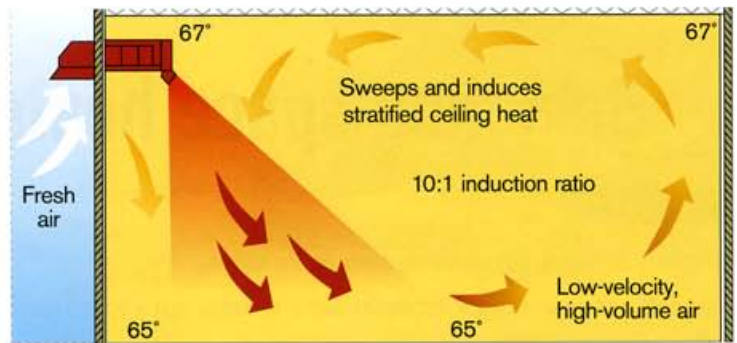

Fig. 3. Direct-fired heater
**Direct-fired air heating systems** can be very energy efficient because they do not use a flue or heat exchanger. The gas is burned directly in the air stream being heated; 100% of available heat is delivered to the heated space (Fig. 3).